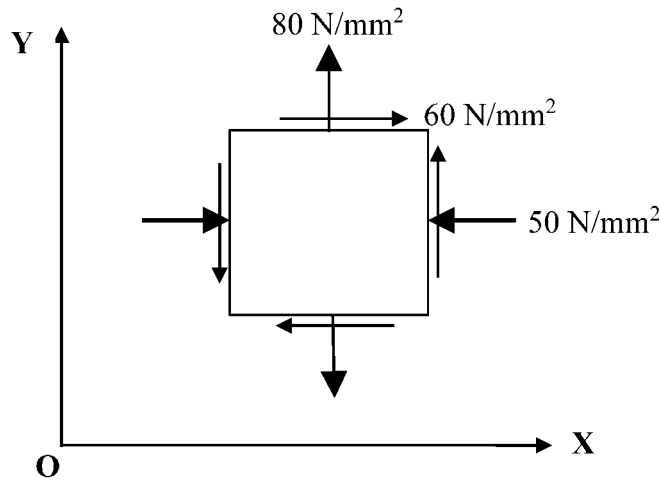

Figure Q8
- 8 Figure Q8 shows a 3 mm thick steel plate, which is under a plane stress system. Assuming the modulus of elasticity of steel as $2 \times 10^5 \text{ N/mm}^2$ and Poisson's ratio as 0.3,